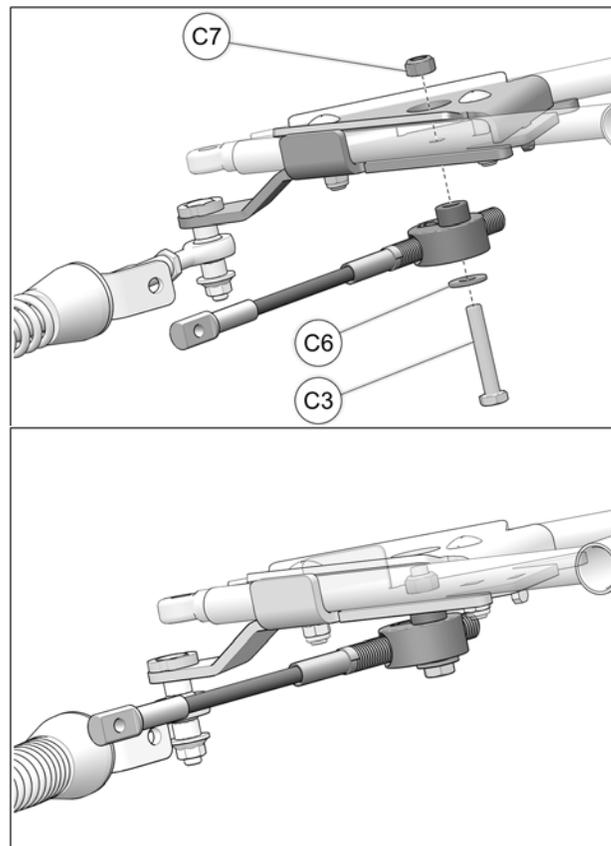

Fig. 26
12. Attach steering limiter cable assembly under anchor bracket using bolt (C3) and washer (C6) inserted through bottom, and nut (C7) from the top. Tighten nut to 50 N•m [37 lb•ft]. Refer to Fig. 26